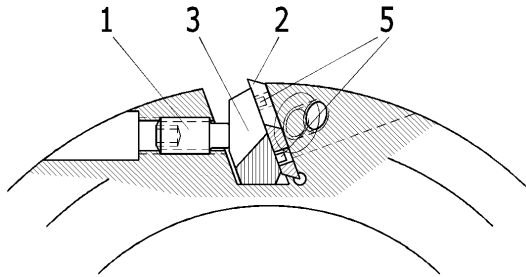

Fig. 1
(see Fig.1 and 2)
2. Do not loosen stop screw (4).
3. Loosen set screw (1) with Allen key only so far until gib (3) with knife (2) can be completely removed from the knife seat.
5. Assemble outside of the knife seat reversed or new knife with the gib. Make sure, that the safety pins (5) of the gib engage into the holes of the knife provided for.
6. Mount the knife together with the gib precisely into the knife seat (see Fig. 1). Make sure that the stop edge of the knife lies-on to the knife seat.